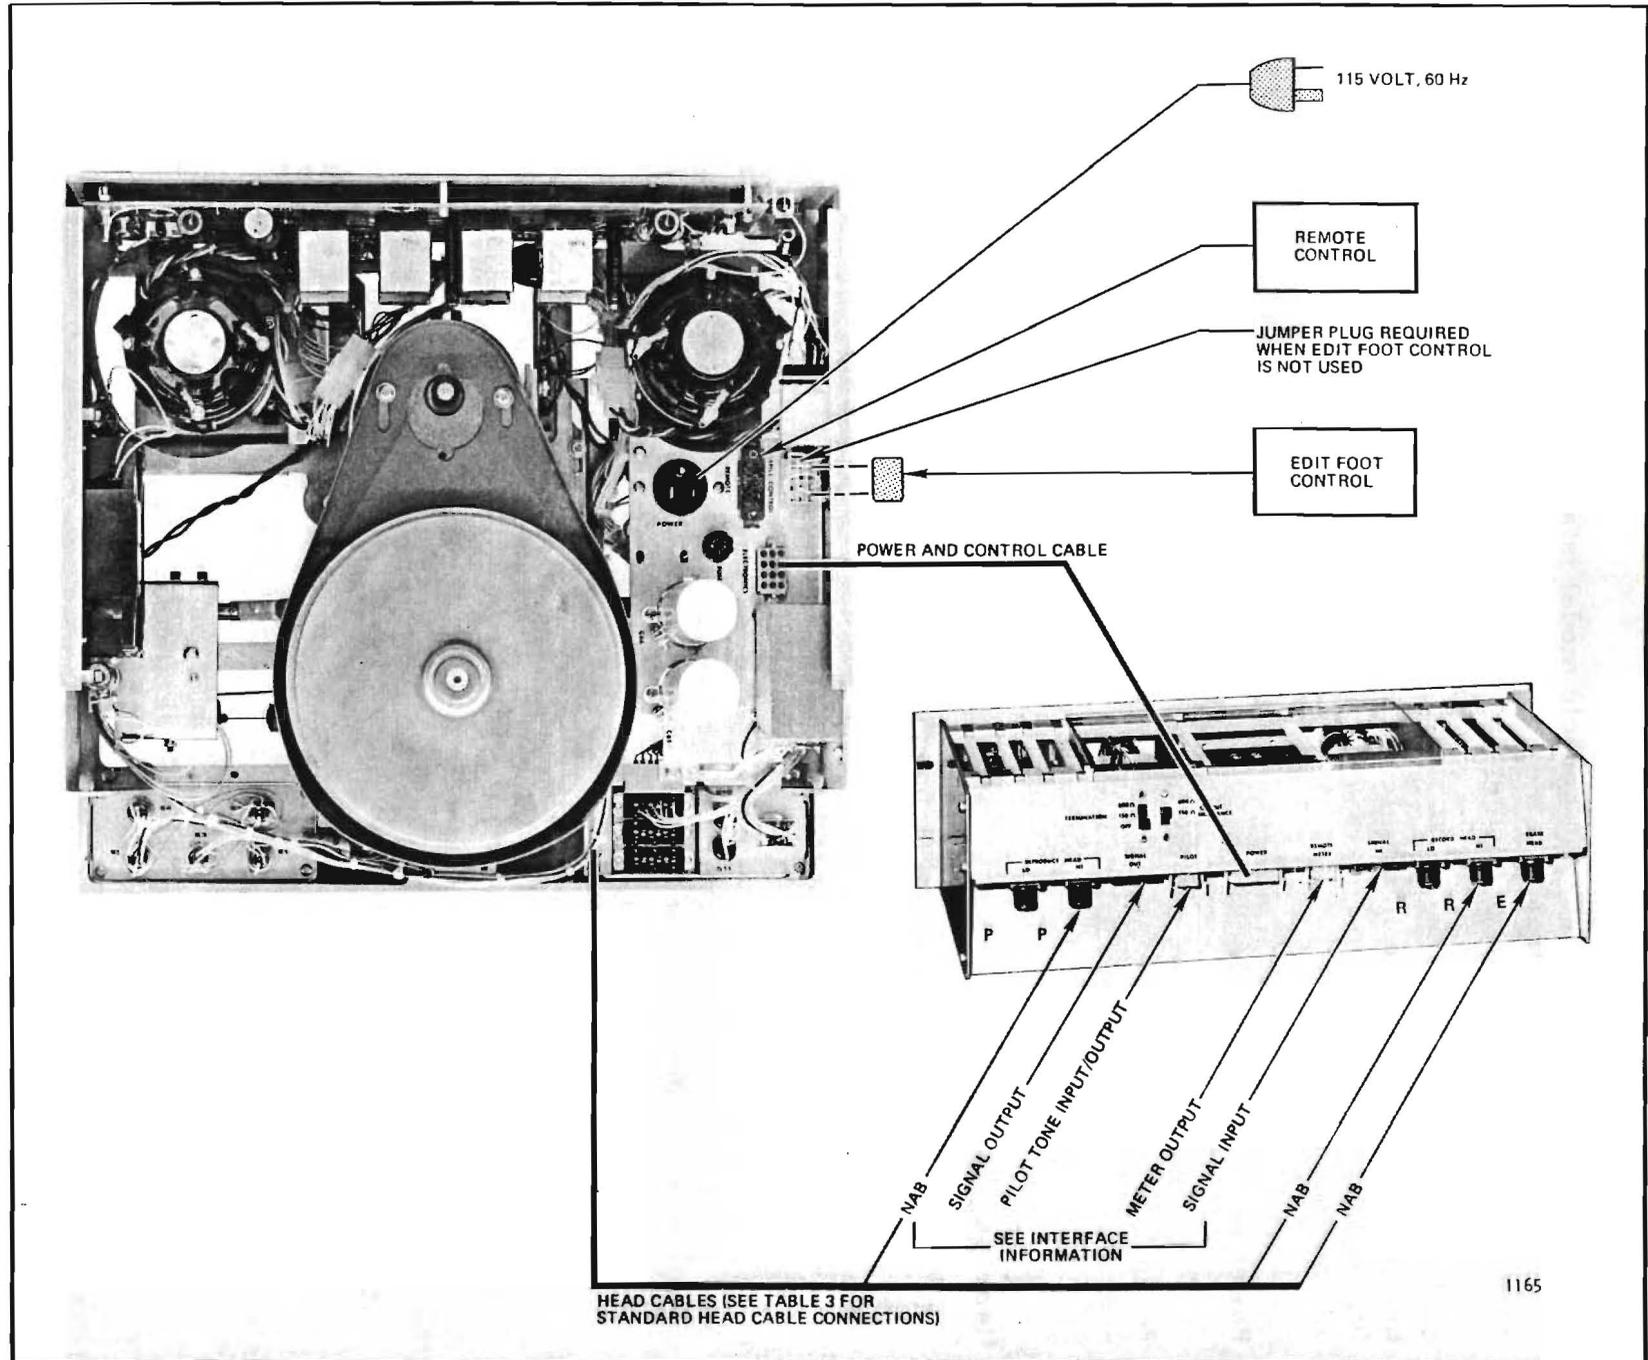

Figure 10. Cable Connections
1. Position the capstan assist spring for vertical or horizontal mounting, as required. See figure 10.
To install the electronics assembly, open the front cover and attach to the mounting rails with four 10-32 screws, washers, and lock washers. When the electronics assembly and transport are installed, make the cable connections as shown in figure 10, and listed under "Electrical Connections."
As previously stated, the console model is shipped with all internal cabling connected. It only requires that the power cable and the external signal cables be connected, plus accessories such as the edit foot control and remote control. In addition, the rack mounting model requires connection of the power and control cable, and head cables between the transport and electronics assemblies. All of the cable connections are illustrated in figure 10, and each is detailed in the following paragraphs. Disregard any connection that does not apply to your equipment.